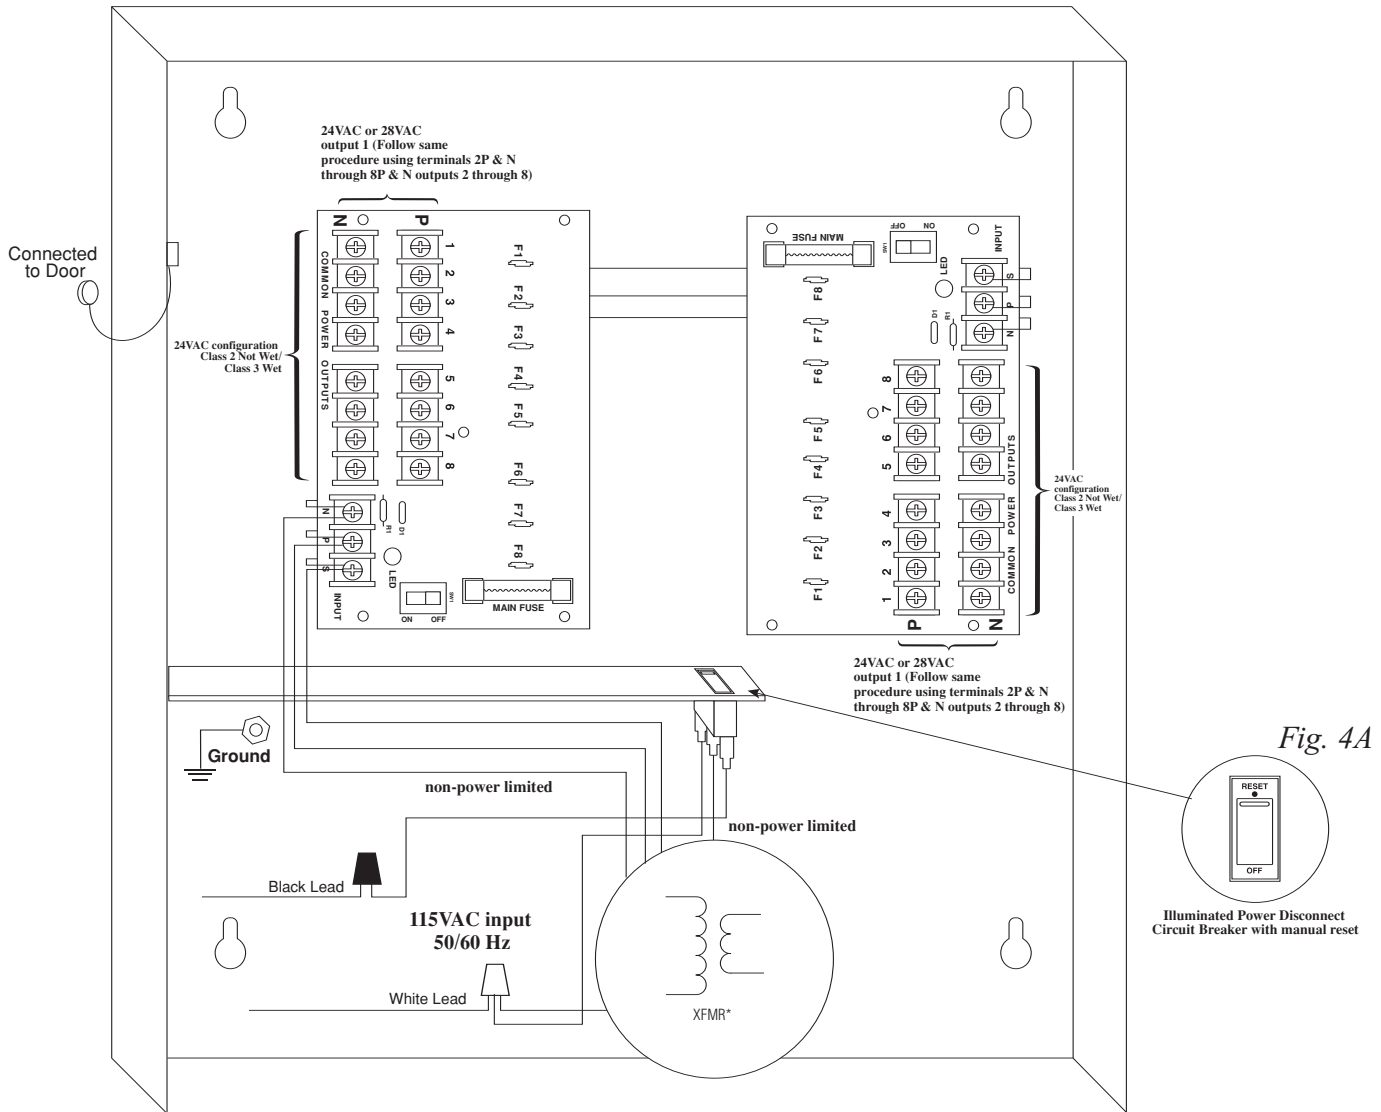

Fig. 5
8. Connect devices to terminals marked [1P - 1N through 8P - 8N] on PD8 board (*Figs. 1-4, 7, 8, pgs. 4-7, 9, 10*), or terminals marked [1P - 1N through 16P - 16N] on PD16W/PD16WCB board (*Fig. 5, pg. 8*), carefully observing polarity.